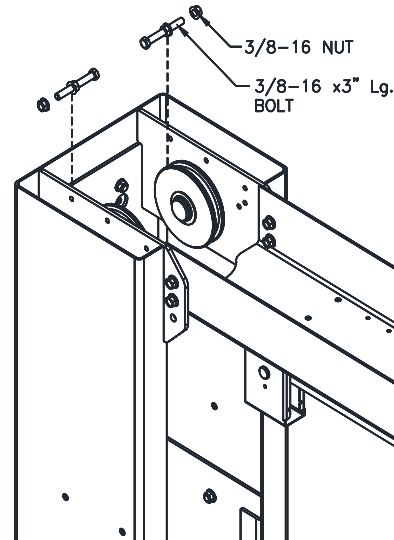

Fig. 11 – Column Ext. Cable Trapping
- 32) Route the free end of a cable coming out the top of the carriage up and over the upper sheaves and back down the opposite side. Install a 3/8x3 cable trapping bolt with a nut on each side of the overhead support plate at each sheave, **Fig. 11**. Do this for both cables.